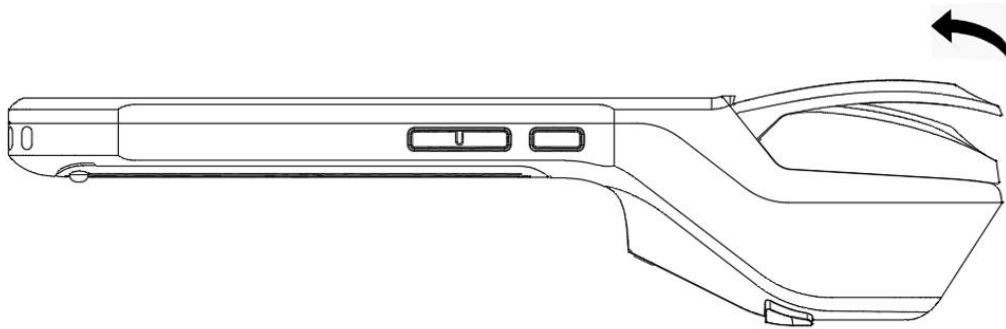

Figure 1-1
- Place the paper in the paper compartment correctly in the direction shown in the figure, and pull out part of the paper to the outside of the cutter (Figure 1-1).